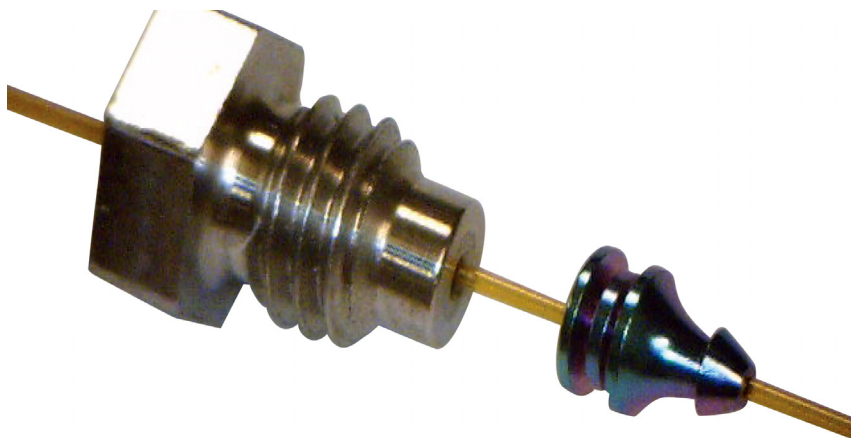

Figure 6 Ferrule swaged to column and internal nut
- 4 Using the 1/4-inch open-ended wrench, turn the internal nut an additional 15 to 20 degrees clockwise to ensure the ferrule is properly swaged onto the column (see Figure 6).